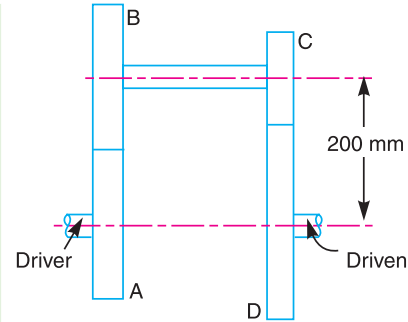

Fig. 13.5
**Example 13.3.** The speed ratio of the reverted gear train, as shown in Fig. 13.5, is to be 12. The module pitch of gears A and B is 3.125 mm and of gears C and D is 2.5 mm. Calculate the suitable numbers of teeth for the gears. No gear is to have less than 24 teeth.